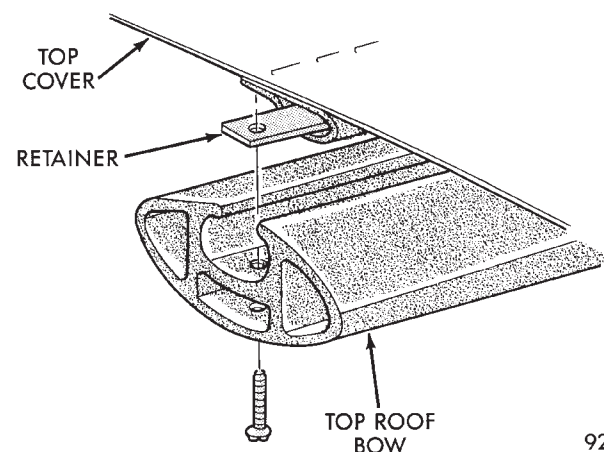

Fig. 10 Third Roof Bow Retainer
(1) Disengage top header latches.
(2) Lower convertible top halfway down.
(3) Remove bolts holding third roof bow to rear roof rails.
(4) Separate third roof bow from rear roof rails.
(5) Rotate third roof bow to gain access to staples holding stay pads to tack strip.
(6) Remove staples holding stay pads to third roof bow.
(7) Remove screws holding top cover listing retainer to third roof bow (Fig. 10).
(8) Separate third roof bow from top frame.